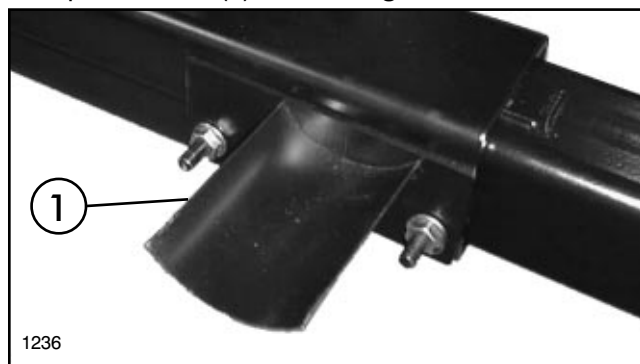

FIG. 5
1. Secure the Strainer Bracket to the front R.H. side of Engine / Pump Base using studs on Engine / Pump Base and (2) 5/16" flange nuts. See FIG. 5.